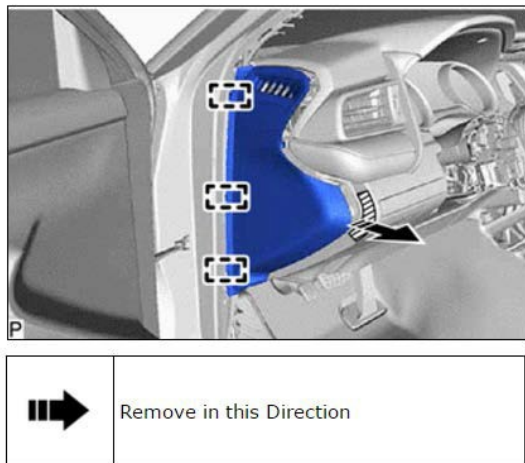

Figure 8
- (b) Disengage the 3 guides to remove the instrument side panel LH as shown in Figure 8.